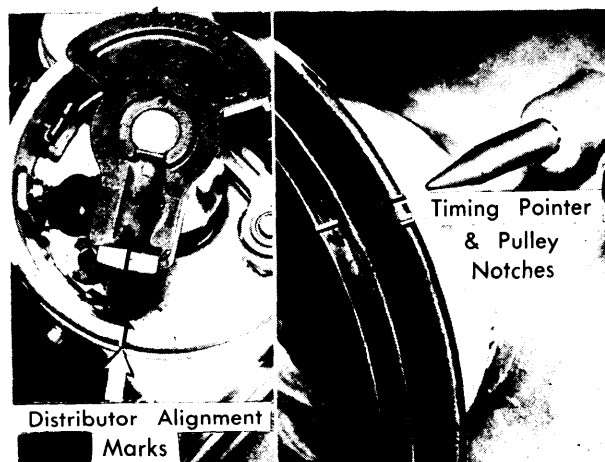

Fig. 1 Correct Procedure to Set No. 1 Piston at TDC
5) Remove upper transmission cover. Adjust No. 1 piston to TDC. Distributor rotor must point at notch in distributor housing. The timing indicator must point at second notch on pulley when turning clockwise (See Fig. 1).